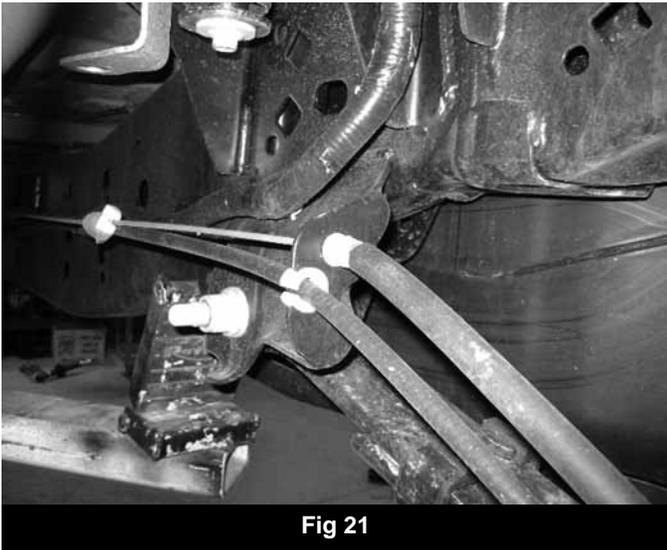

Fig 21
54. Compress the retaining tabs and remove the driver's side cable from the spring hanger (Fig 21). It will be relocated and reconnected later.